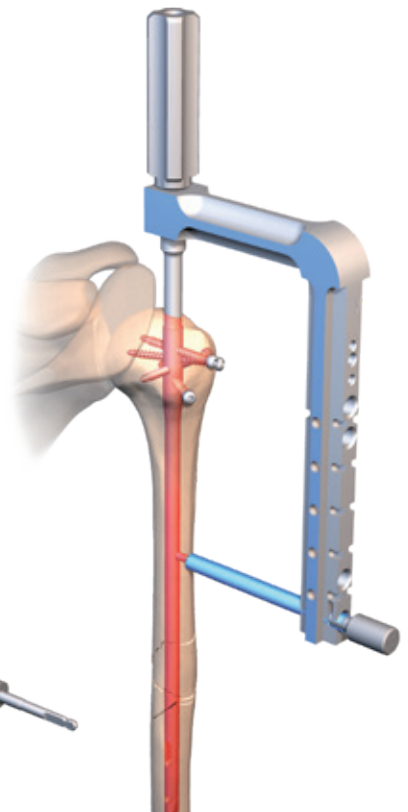

fig. 13
- Fit the intermediary positioner (ref. 253 675) in its notch, leaving the small aiming sleeve in place (fig.13).
fig. 13 bis